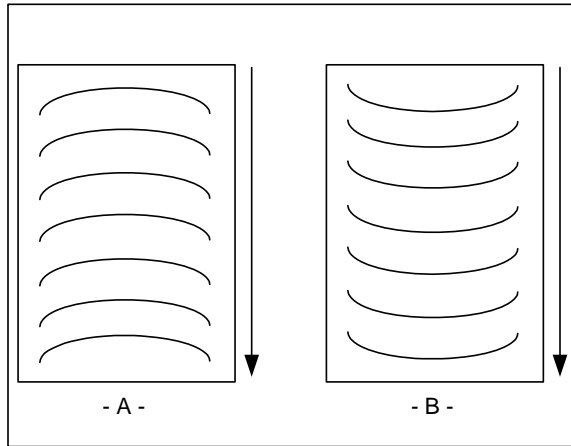

FIGURE 39
1. “D” waves in the image (Fig. 39 A).
2. “D” waves in the laminate (Fig. 39 B).